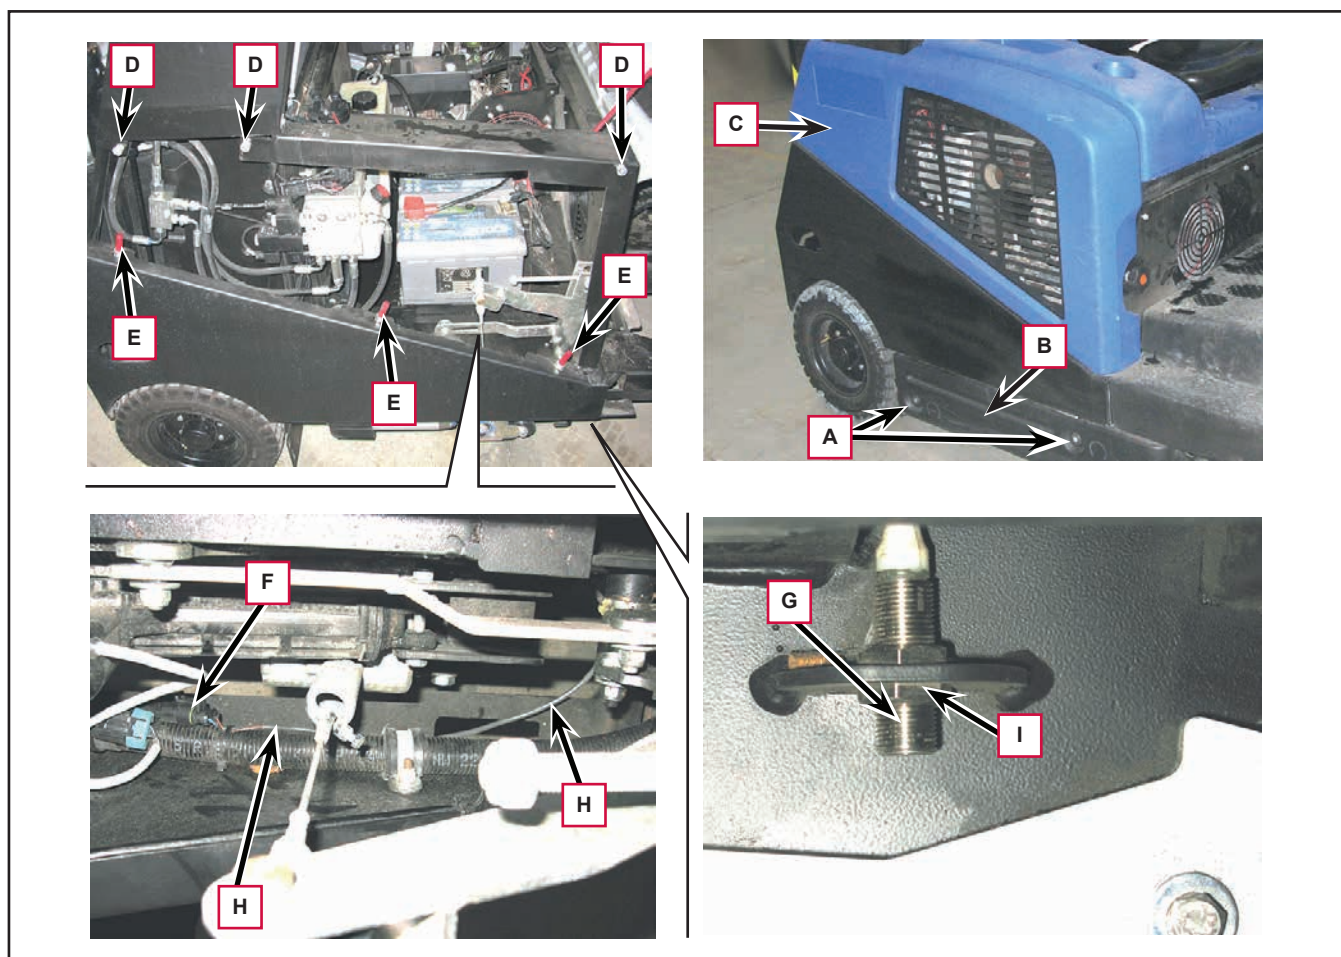

Figure 23
8. Unscrew the screws (A, Figure 23) and remove the right door (B).
9. Lift and remove the right side panel (C), disengaging it from the upper (D) and lower (E) fasteners.
10. Disconnect the electrical connection (F) of the broom wear sensor (G).
11. Open the retaining clamps and free the broom wear sensor (G) cable (H).
12. Unscrew the locknut (I) and remove the broom wear sensor (G) with wiring (H).